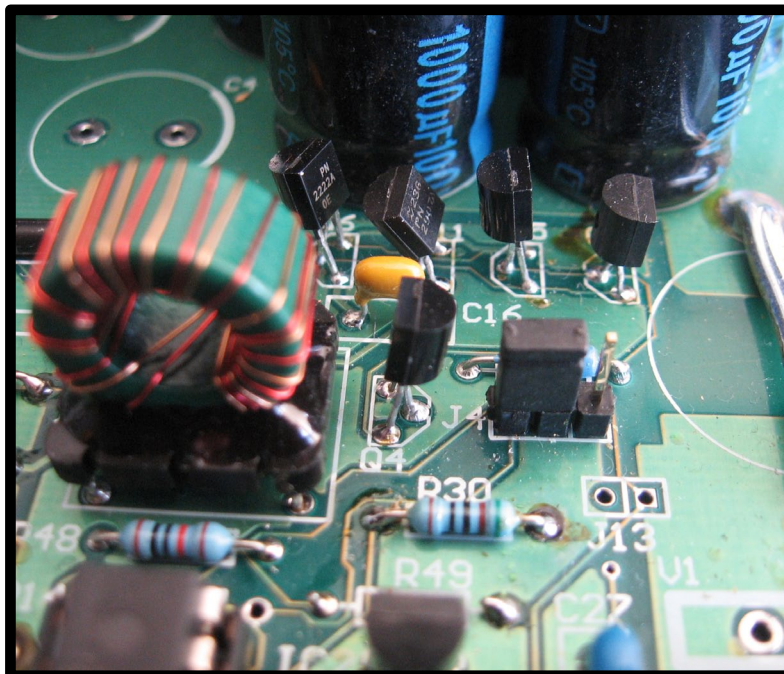

Figure 2 (Above): Vented Battery Setting
4. Move link on J4 to vented position – **see Figure 2**.